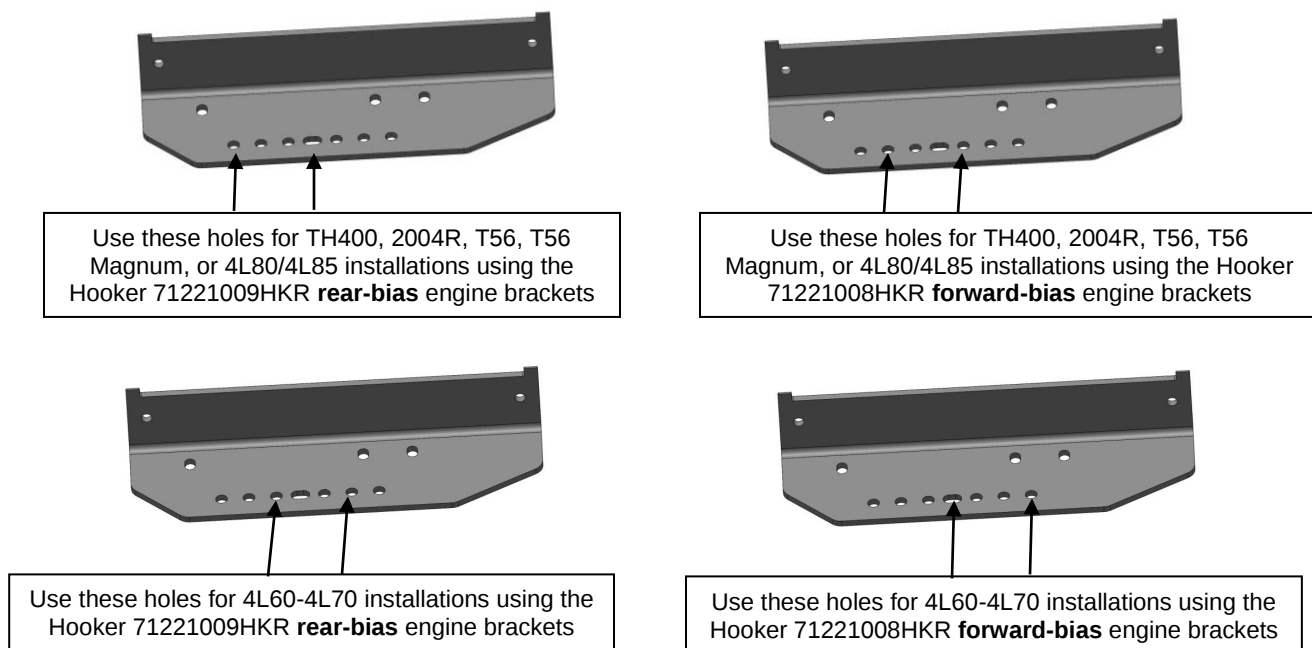

Figure 2 (Driver's side bracket shown – passenger's side similar)
- Place the crossmember assembly on top of the frame adapter brackets and line up the holes in the ends of the crossmember with combination you are using in your swap. See **Figure 2** for the correct hole pattern to use for your combination.